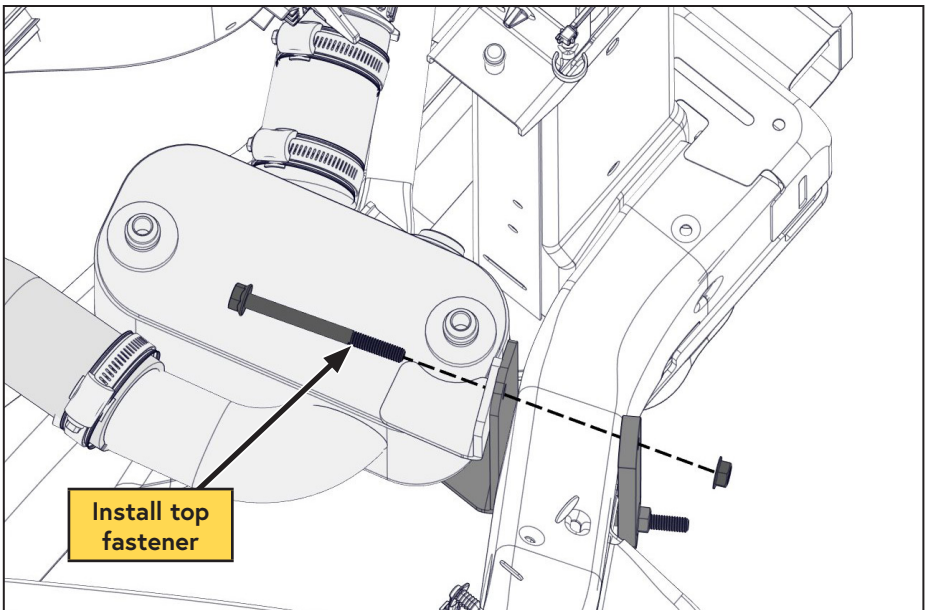

Figure 43 — Install top fastener
- ☐ Install the top cooler bracket fastener finger tight (Figure 43).